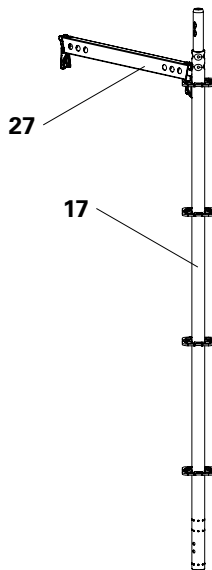

Fig. B8.06a
1. Hook Horizontal Ledgers UH-2 75 (**27**) into the Standards UVR-2 200 (**17**). Pre-assemble the assembly 2x. (Fig. B8.06a).